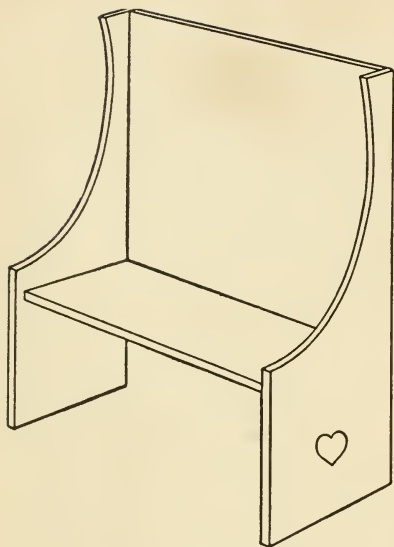

FIG. 129.—A Settee.
**The Settee** (Fig. 129) should have its sides cut by the pattern of Fig. 120. Make the back-piece three and three-quarters inches wide and three and one-quarter inches high, and the seat three and three-quarters inches by an inch